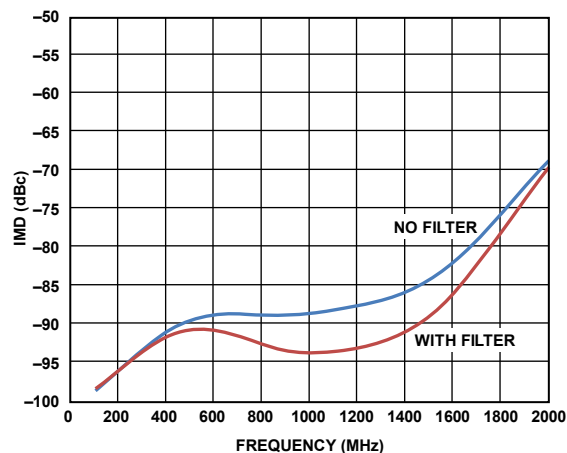
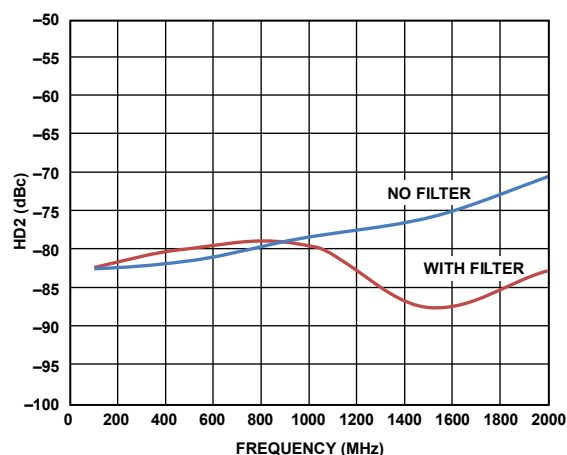
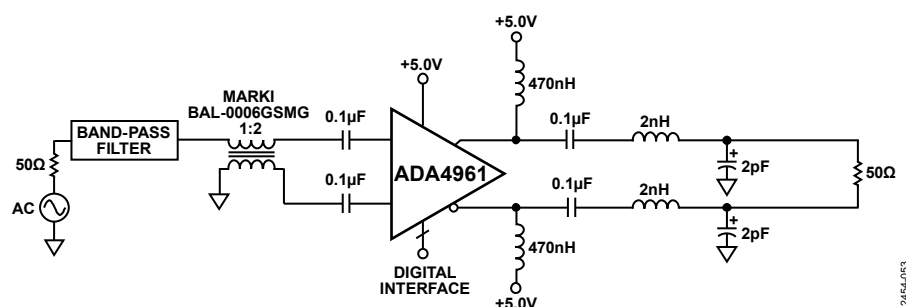

Figure 46. IMD vs. Frequency, With and Without LC Filter
Figure 47. HD2 vs. Frequency, With and Without LC Filter
Figure 49. ADC Interface Circuit Using a Low-Pass Antialias Filter
The high frequency distortion performance of the ADA4961 can be enhanced by adding a low-pass filter to the output (see Figure 46 and Figure 47). A two-pole low-pass filter is used in the ADC Driving section to illustrate the distortion improvement capabilities and integrated noise reduction. Figure 49 shows a simplified diagram of a two-pole low-pass (LP) filter. The inductor capacitance (LC) values are 2 nH and 2 pF respectively. This filter gives an overall -3 dB BW of 2 GHz when connected to the ADA4961. Ideally, the BW is 3.5 GHz without any parasitics. The parasitic, C, (about 1 pF) across the 2 nH inductor (not shown) reduces the BW to about 2.1 GHz.